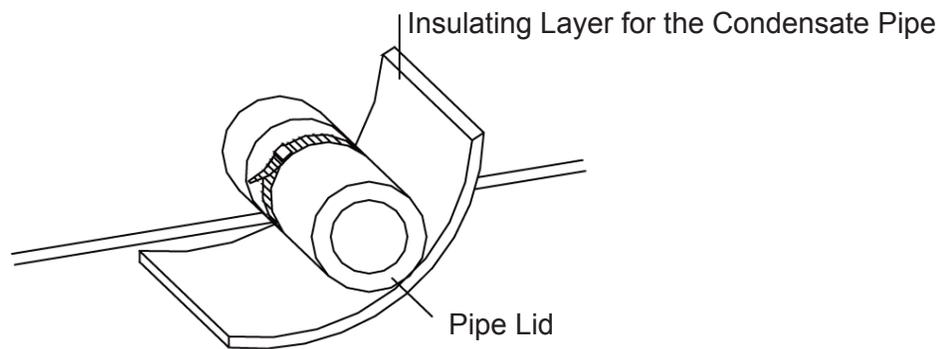

Fig. 13 Thermal Insulation of the Condensate Pipe
- (1). The condensate pipe should keep a incline angle of 5~10°, which can facilitate the drainage of the condensate water. The joints of the condensate pipe should be insulated by the insulation material to prevent condensing (see Fig. 13).
- (2). There is a condensate outlet on both left and right sides of the unit. Once one is confirmed to be used, the other should be clogged by a rubber plug, bundled by the binding wire and insulated by the insulation material to avoid water leakage.
- (3). The right outlet is defaulted to be clogged with a plug.